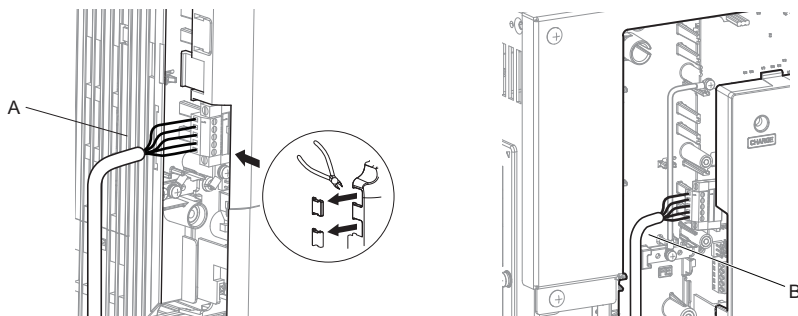

Figure 12 Wire Routing Examples
5. Select the proper CC-Link dedicated communication cable according to Table 6. Route the option wiring inside the enclosure as shown in Figure 12-B. Take proper precautions so that the front covers will easily fit back onto the drive. Users may also choose to route the option wiring through openings on the front cover of some models. Remove the perforated tabs on the left side of the front cover as shown in Figure 12-A to create the necessary openings on these models. Refer to the Peripheral Devices & Options section of the drive instruction manual for more information.